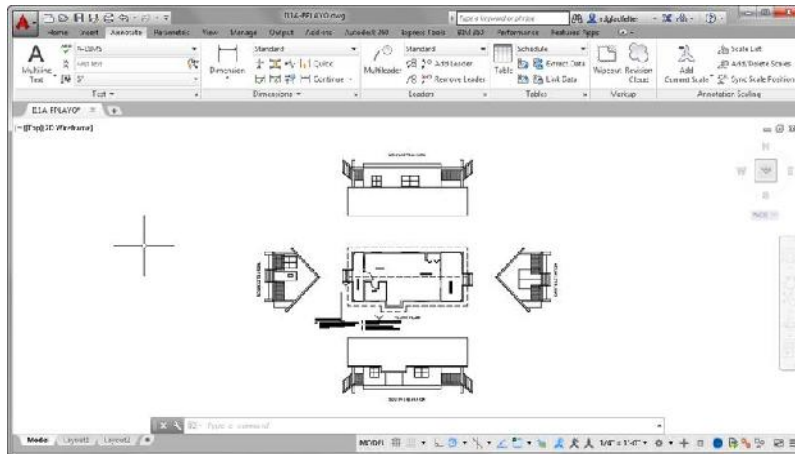

FIGURE 12.2: The cabin floor plan and elevations with the Annotate panels at the top of the drawing area
6. Click the Annotate tab. Your drawing will look like Figure 12.2.